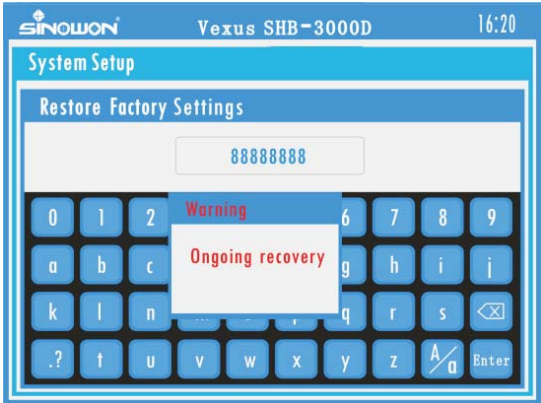

Fig. 6-20
- 6.13.2Steps: Enter system setup, select default setup, then enter password, click Enter on lower right corner, then system starts default setup, a moment later system will back to system setup. Fig6-20.